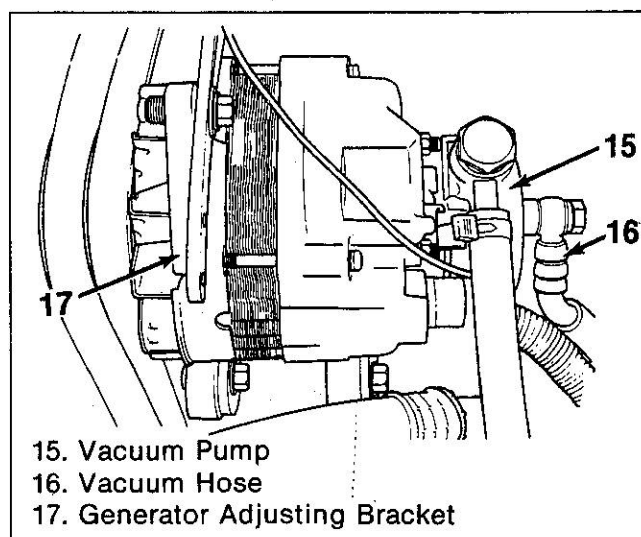

Figure 6. Vacuum Hose Attachment at Vacuum Pump
18. Vacuum hoses (16) at the vacuum pump (15) (figure 6).
20. Generator adjusting bracket (17) (figure 6).
15. Generator adjusting bracket (17) (figure 6).
17. Vacuum hose (16) to the vacuum pump (15) (figure 6).